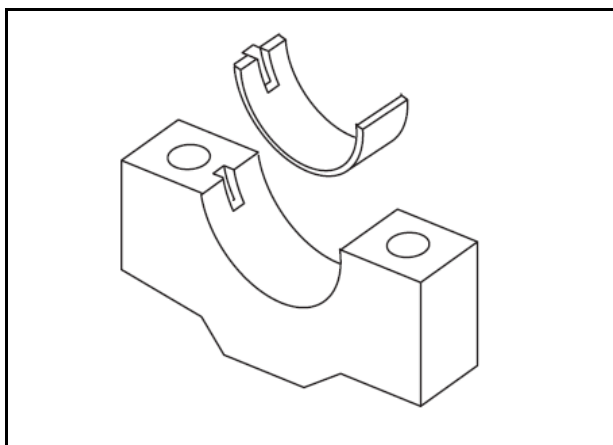

Fig.2-Installing Lower Main Bearings
2. Install lower main bearings in bearing caps, Fig. 2.